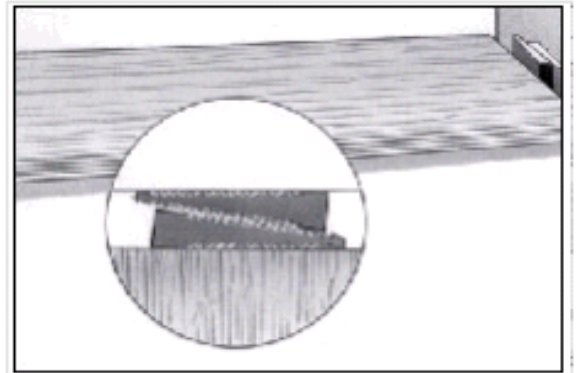

Fig. 6
6. Two tapered spacers can be used as wedges to accommodate irregular walls (Fig. 6).